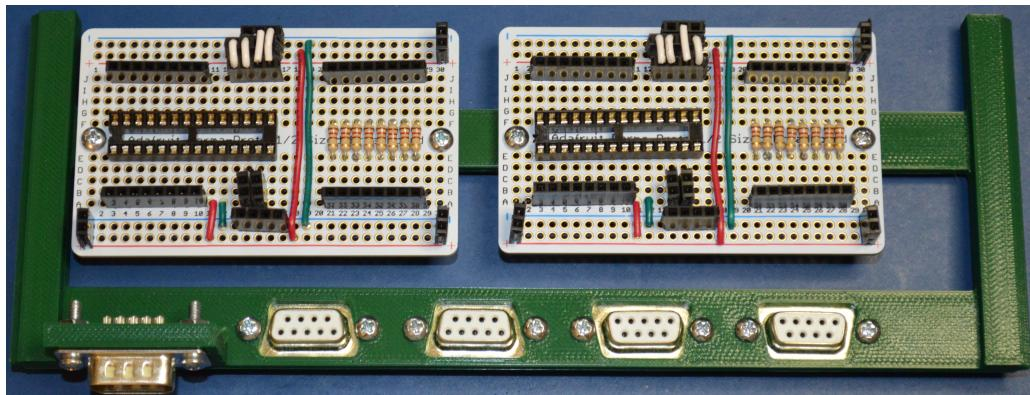
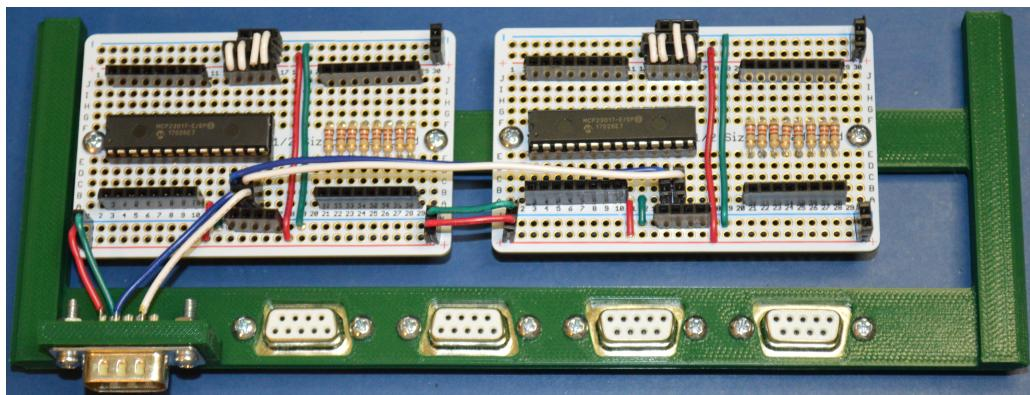

Figure 2.6: Panel I/O Tray with GPIO Boards with Address and Reset Jumps Installed. These are Control LED and Control Switch Boards
Figure 2.7: Panel I/O Tray with GPIO Boards with Power, I2C, and MPC23017s Installed
- Add wiring for power, I2C, and board configuration (Figure 2.6 shows the address and reset jumpers installed. From the address jumpers, these are the control LED and control switch boards) and install the MCP23017s. See Figure 2.7. If the processor and bus cable are ready, this can be hooked up to see that the processor detects the MCP23017s.